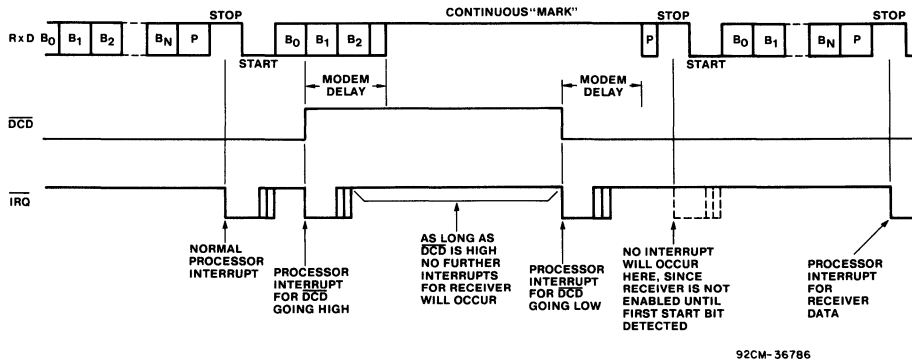

Fig. 17 - Effect of  $\overline{DCD}$  on receiver.
**Effect of  $\overline{DCD}$  on Receiver (Fig. 17)**